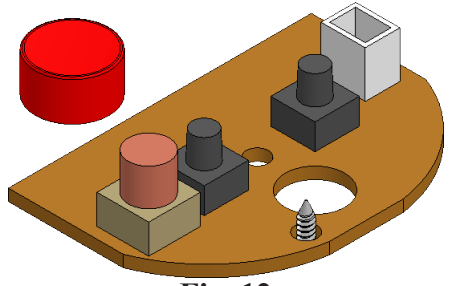

Fig. 12
Step 4. Select your **BUTTON** file and place, **Fig. 12**.